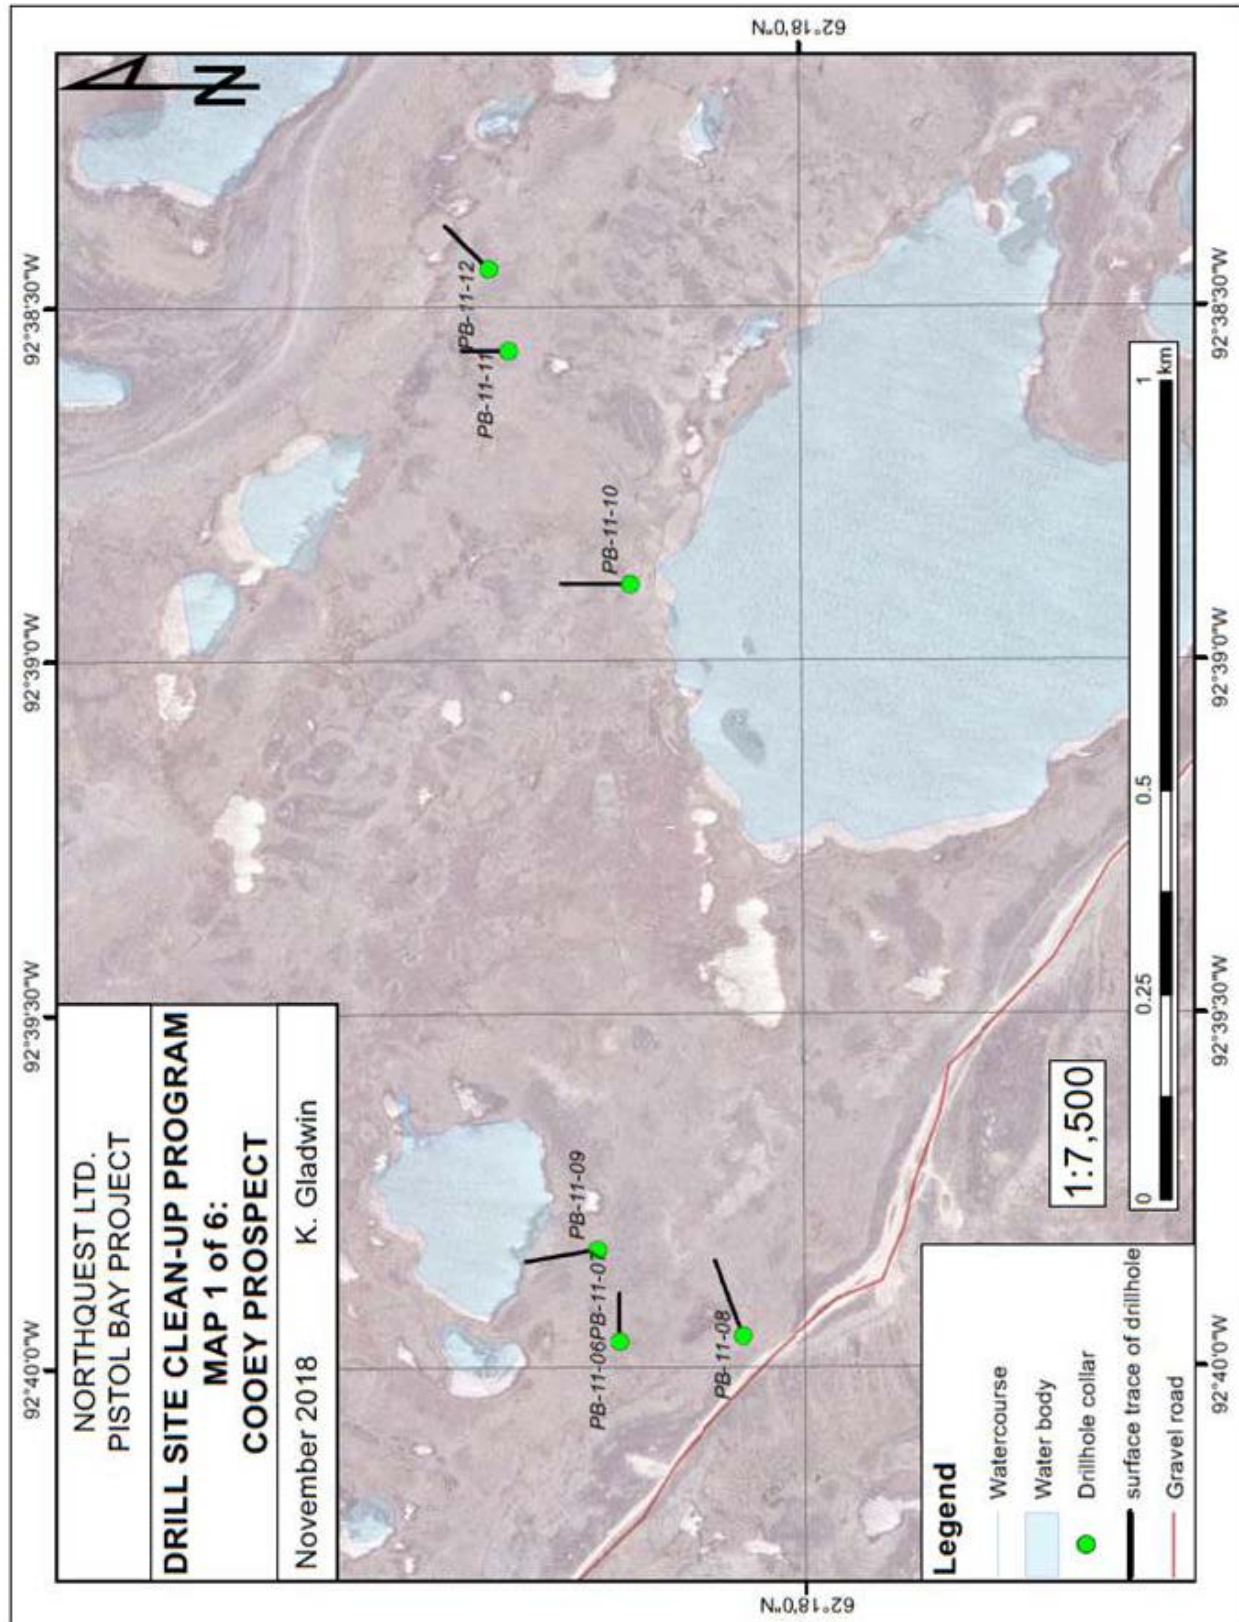

Figure 8. Map illustrating the Cooley Prospect drill sites.
- Figure 8. Map illustrating the Cooley Prospect drill sites.
| • Sako and Cooley | Drill holes illustrated on Figures 8 and 9 respectively |